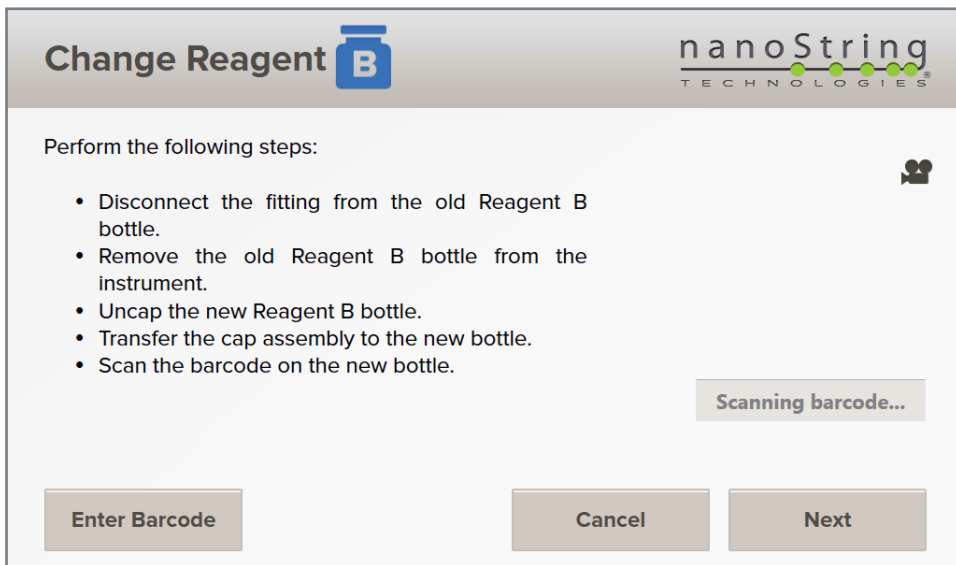

FIGURE 7.10 The Change Reagent screen for Reagent B.
- The Change Reagent screen for Reagent B (blue bottle) will appear next (**FIGURE 7.10**). Repeat **Steps 3–9** to change Reagent B.